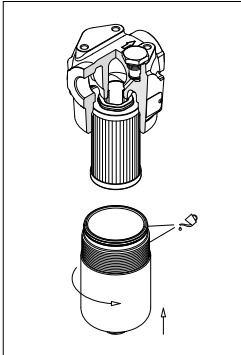

fig. 13
- (Fig. 13) Lubricate the thread and the O-Ring of the bowl, then screw the bowl in referring to the tightening torque table in paragraph 3